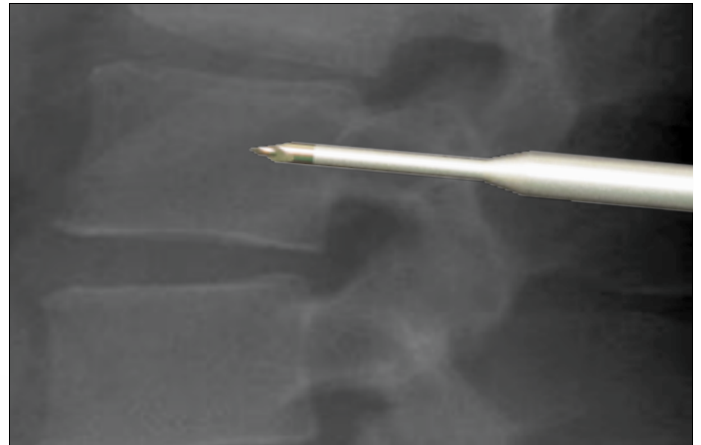

FIG. 9
- Revert to lateral imaging. If the image shows penetration into the vertebral body, the procedure can continue. If the image does not show penetration into the vertebral body, revert back to AP imaging. Extract the Cannulated Awl back to the bony entrance and re-advance with a corrected angle. Revert to lateral imaging and inspect the position again. (FIG. 9)